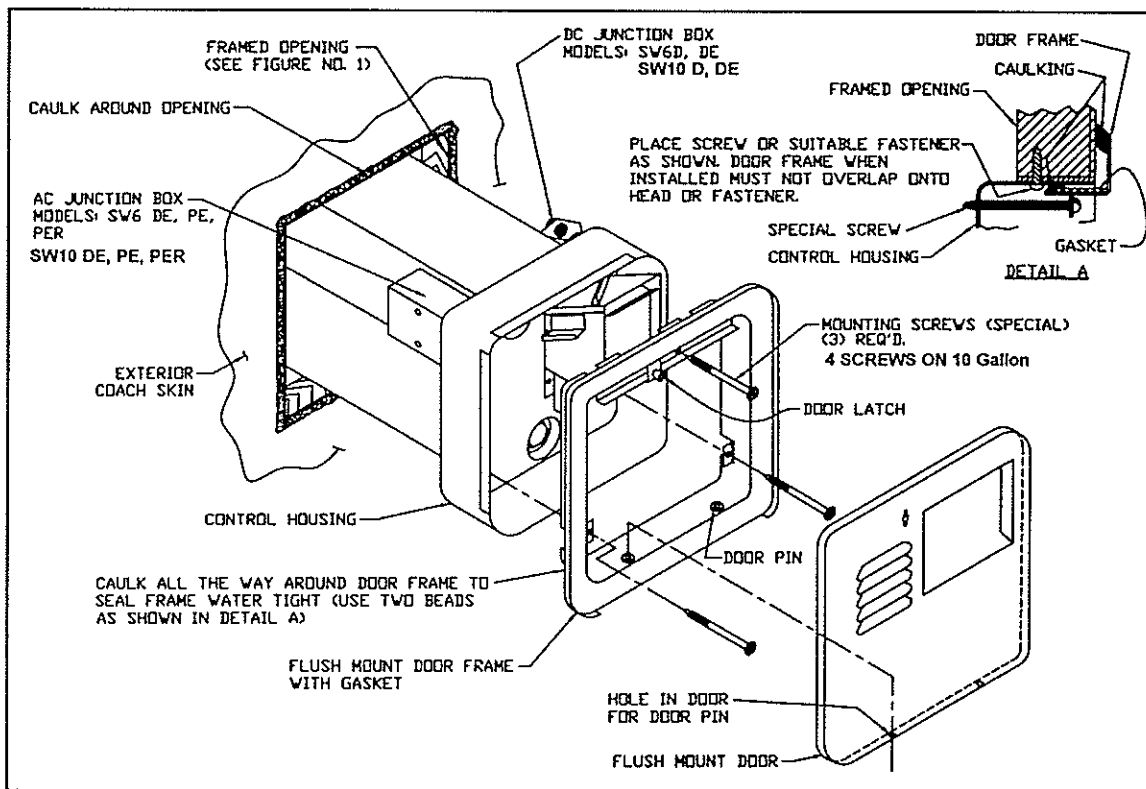

Figure 2
**E.** Caulk around framed opening as illustrated in Figure 2.
**F.** Caulk around door frame using 2 beads of silicone caulking (or suitable caulking) one on the flange to seal the control housing and one around back side of frame to seal to coach skin. (See detail A in Figure 2)
**G.** Insert door frame into control housing and secure with four (4) No. 8-15 x 3 1/2" screws provided for 10 gallon applications and (3) No. 8-15 x 3 1/2" screws provided for 6 gallon applications.
- A. Refer to Figure 2 for location of A.C. and D.C. junction box on specific models. All A.C. connections must be inside junction box.